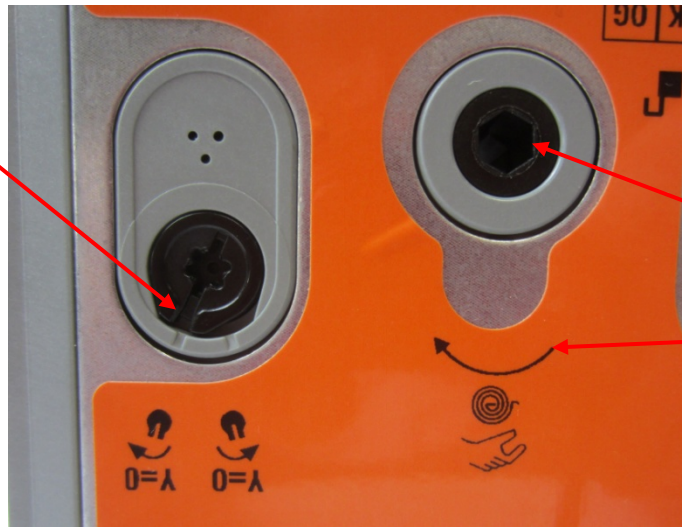

Figure 6-45-2
5. Check to see that the End Switch Positioner Switch (not used for Gaylord application) is set to the arrow that is in the same direction as the spring drive direction (Refer to Figure 6-45-2).